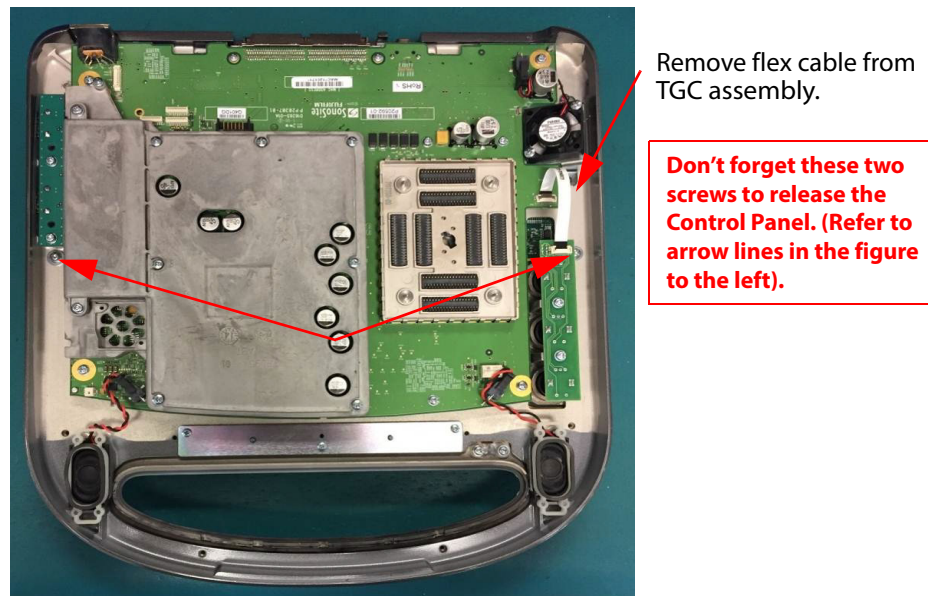

Figure 6.3 Main Frame Bottom
- 4 After removing the Bottom Enclosure, remove the two screws and flex cable indicated in Figure 6.3.
- 8 Reinstall the flex cable from P605 on Main PCBA to TGC assembly and two screws that hold the Control Panel in place per Figure 6.3. Torque the screws to 3.0-inch pounds.
- 3 Remove the ribbon cable from P605 on Main PCBA to TGC and 2 screws in the SonoSite Edge II Main Frame securing the Top Enclosure per Figure 6.3.
- 7 Install the ribbon cable from P605 on the Main PCBA to TGC and 2 screws in the SonoSite Edge II Main Frame securing the Top Enclosure per Figure 6.3. Torque the screws to 5.5-inch pounds.
Note: These steps assume the Control Panel has been removed from the system. The TGC may also be removed while the Control Panel is still installed in the system. Refer to Figure 6.3